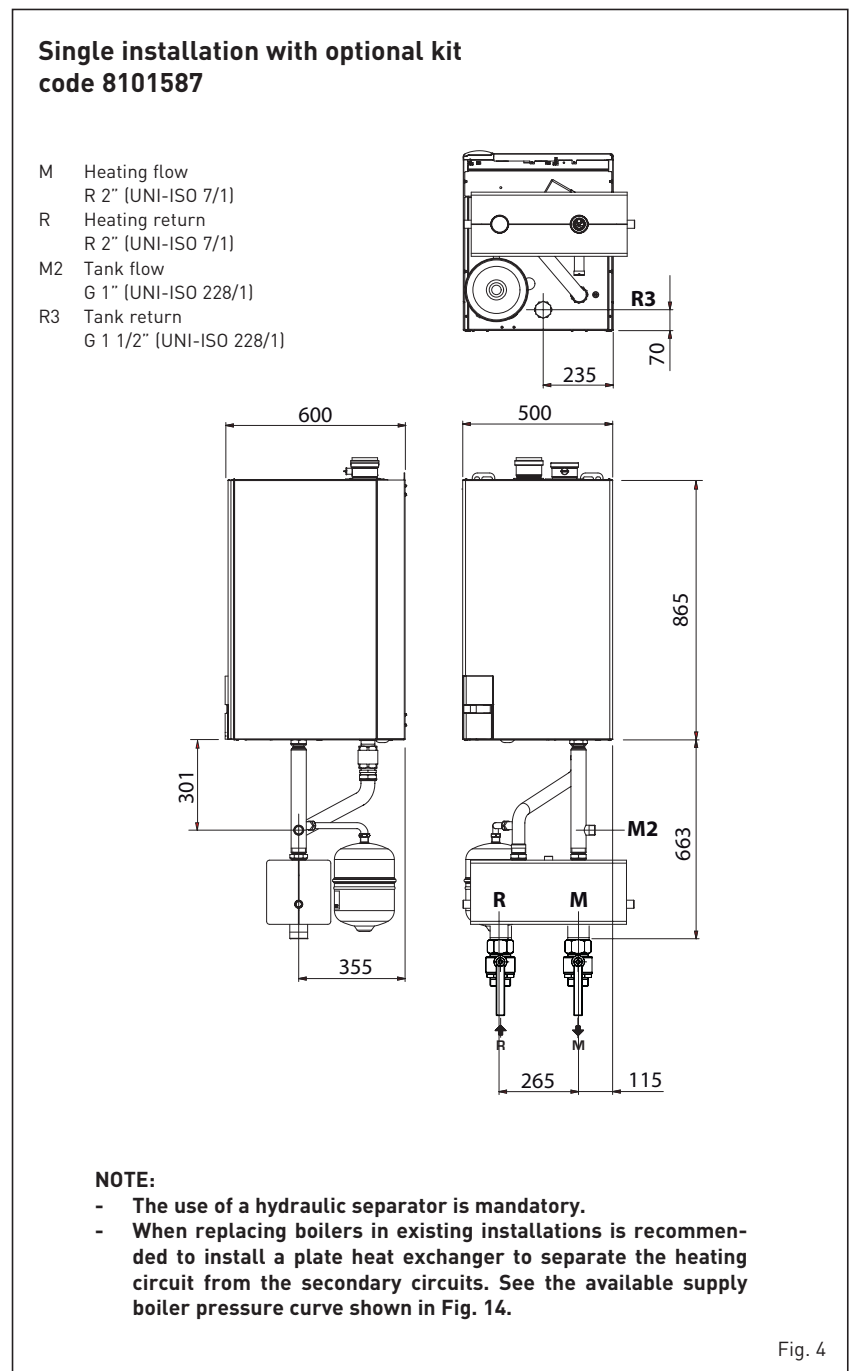

Fig. 4
2.2.1 Single boiler (fig. 4)
The use of a hydraulic separator or plate heat exchanger is mandatory. For single boiler installations a kit 8101587 is available. See fig 4.